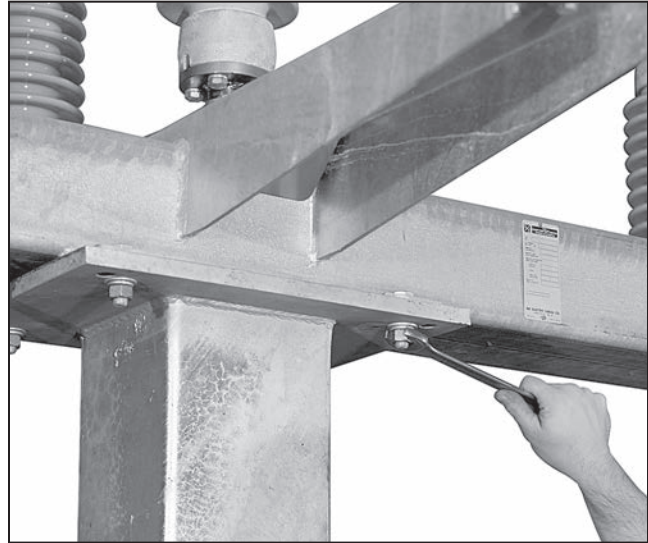

Figure 24. Bolt the switch to the mounting pedestal.
**STEP 21.** Bolt the switch to the mounting pedestal using four  $\frac{5}{8}$ -11 $\times$ 2 $\frac{1}{2}$ -inch galvanized steel cap screws, flat washers, lockwashers, and nuts furnished. See Figure 24.